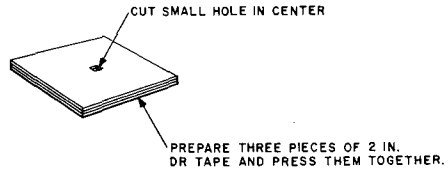

Fig. 9—Insulating Pad
- (1) Remove the outer polyethylene jacket and underlying metallic shields. Then, with a cable drill, make a hole in the center of the exposed inner polyethylene layer to expose the core wrap. Open the core wrap slightly.
- (2) Prepare an insulating pad of three layers of 2-inch DR tape. Cut each piece slightly longer than the rectangular opening in the outer polyethylene and press the three pieces into a pad. In the center of the pad, cut a hole approximately 1/4 inch with the splicer scissors (Fig. 9).
- (3) Carefully trim the pad to fit in the rectangular opening in the outer polyethylene jacket. The pad should butt against the cut edges of the polyethylene along all four sides.
- (4) Remove the pad from the opening. Coat the exposed polyethylene opening and the cut edges of the polyethylene with C cement and allow it to dry.